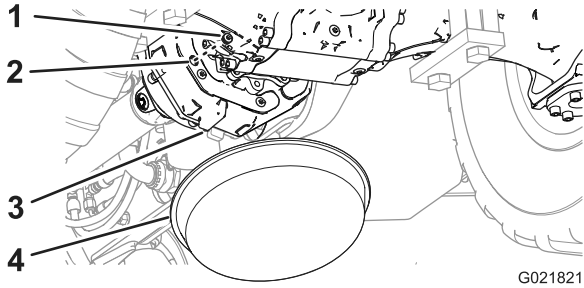

Figure 70
1. Place a drain pan under the back side of the transmission housing (Figure 70).
6. Install the sight plug into the sight port of the transmission housing (Figure 70).